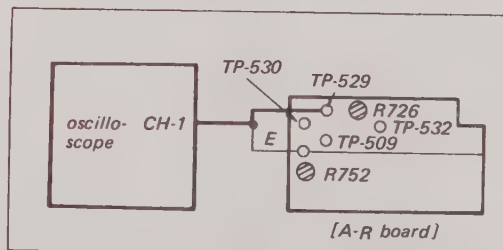

Fig. 8-16. Color APC adjustment test setup (2)
5. Ground TP-532 with a $0.1\mu\text{F}$ capacitor. See Fig. 8-16.
6. Connect the scope or a dc voltmeter to TP-529 on the A-R board. See Fig. 8-16.
14. Ground TP-532 with a $0.1\mu\text{F}$ capacitor. See Fig. 8-16.